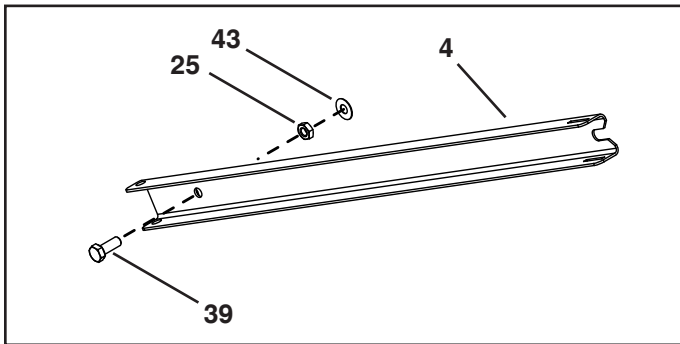

FIGURE 1
- (1) Hammer
STEP 1: (SEE FIGURE 1)
- Install a 1/4-20 x 1" hex bolt (39) and a 1/4" hex nut (25) in each bag arm channel and then place a 1/4" washer (43) onto the end of the bolt.